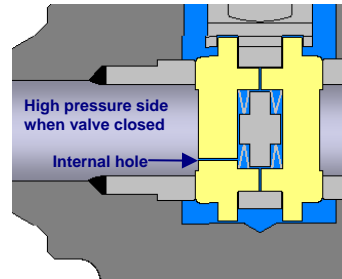
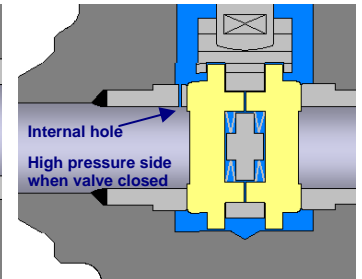

Fig. 7
Fig. 8
- An internal hole in the disc face (Fig. 7), or in the seat (Fig. 8), connecting the body cavity to the high pressure side of the valve. The valve however will seal only in one direction.